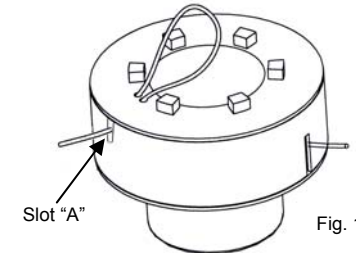

Fig. 15
5. Bend 1/2-inch of the other end of the cutting line and feed through until it comes out of slot "A". (Fig. 15) Pull out about 4-inches.